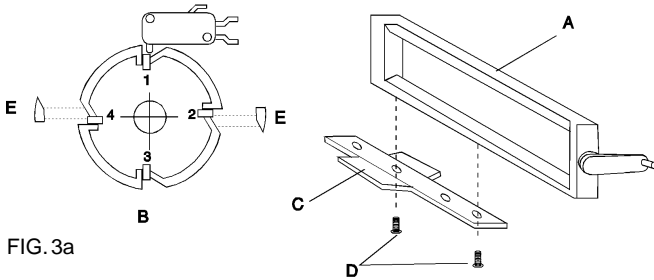

FIG. 3a
- using inserts "E", located on the cam (see Fig. 3a), close the cam's slots 2 and 4;